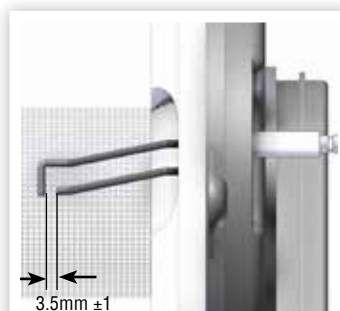

FIGURE 38. ELECTRODE GAP
- 17.7.5 Brush off any deposits that may be on the burner with a soft brush. Inspect the ignition/detection electrode and check the electrode gaps. See Figure 38.